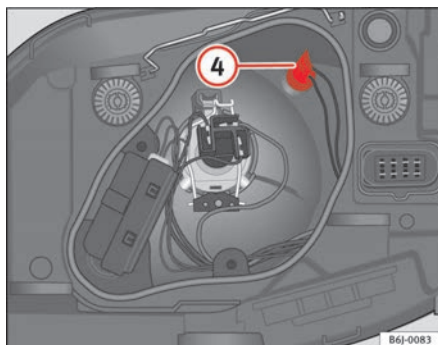

Fig. 143 Side lights
- Remove the bulb holder ④ ⇒ fig. 143 outwards.